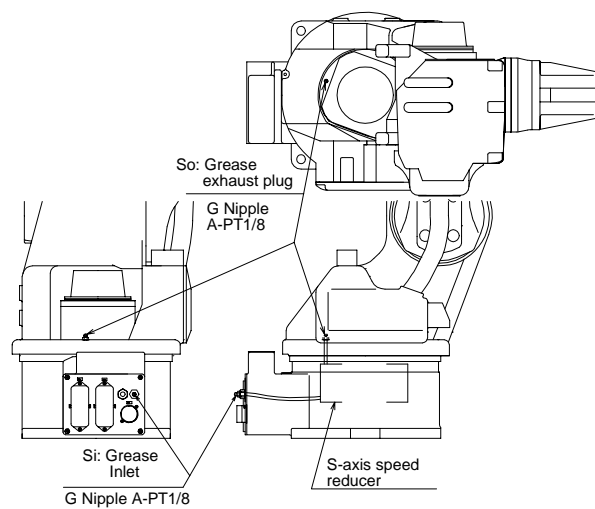

Fig. 26 S-Axis Speed Reducer Diagram
■ Grease Replenishment (Refer to " Fig. 26 S-Axis Speed Reducer Diagram ".)
■ Grease Replacement (Refer to " Fig. 26 S-Axis Speed Reducer Diagram ".)